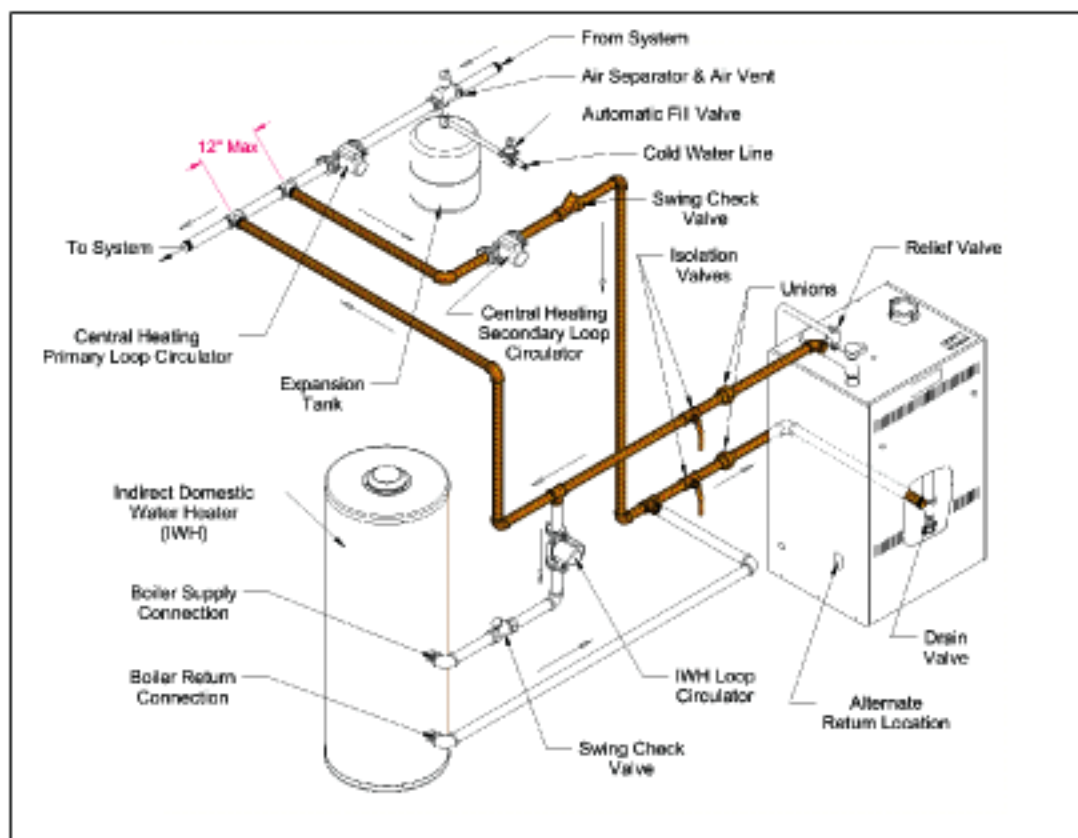

Figure 8.4a: Piping Method #1 - Secondary Loop Piping (Shaded)
- b) Count all fittings in the planned secondary loop (the secondary loop consists of the shaded piping in Figure 8.4a). In doing so, do not count the secondary connection tees, unions, or the fittings supplied with the boiler (these have already been accounted for).